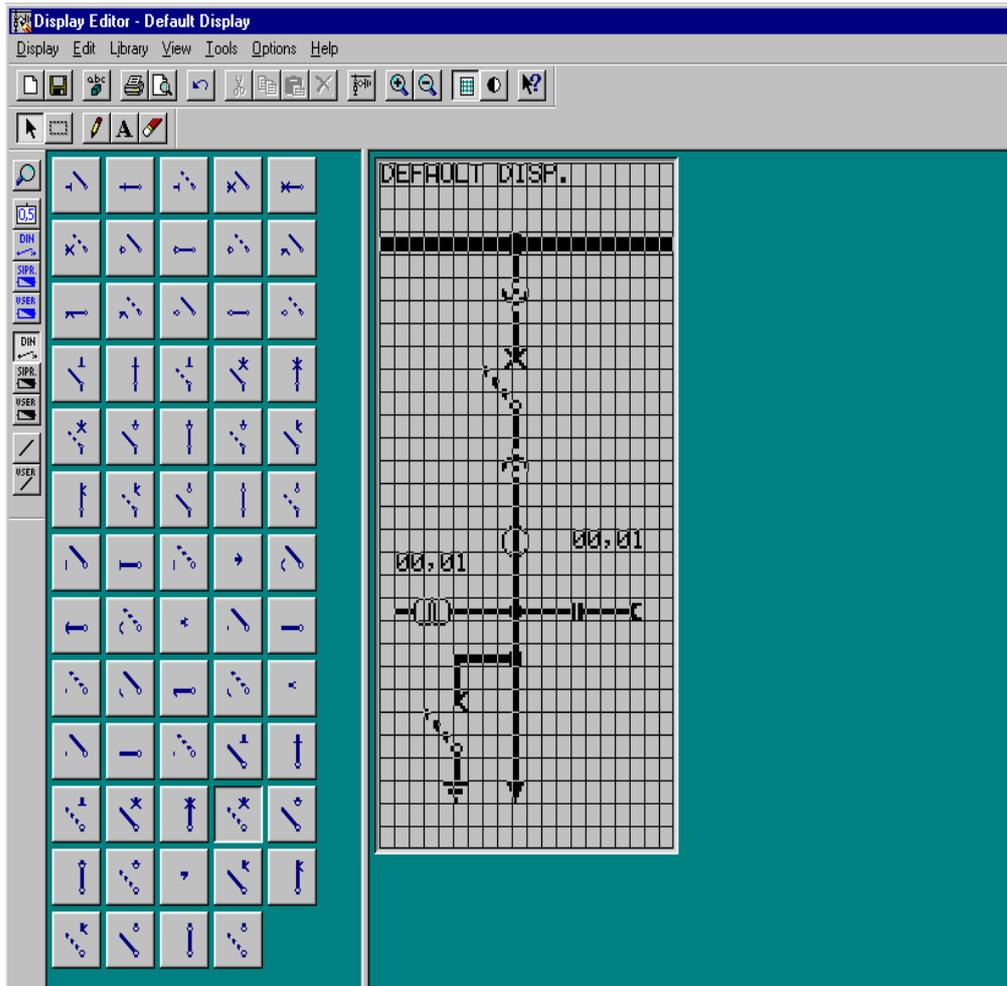

Figure 5-46 Standard default display after opening the Display Editor
When the device is delivered, it might provide one or more pre-assembled default displays (for example, see Figure 5-46). These can be modified or replaced to adapt to the actual substation conditions. However, it is also possible to display other information than the station image on a default display. The display, for example, can be used to view a variety of operational measured values.
As delivered, the relay shows a basic default image (see Figure 5-46) which may be modified or replaced to show the actual equipment conditions. It is also possible, however, to show information in addition to the single-line diagram. The display may also be used, for example, to show a number of measured values.
- In DIGSI[®] 4, select the default display under the **Setting** option. The Display Editor is started and the default display is opened (see Figure 5-46). *Right-click* in the title bar and select **Open** in the context menu which appears. The desired text may be entered.